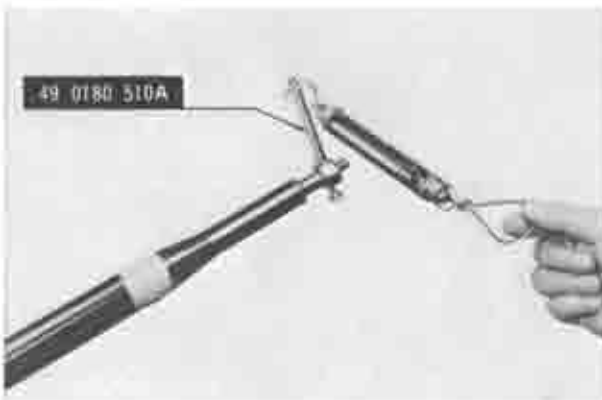

Fig. 10-13 Checking bearing preload.
**Note:** The preload before installing the sector shaft should be between 2.0 to 5.0 cm-kg (1.7 to 4.3 in-lb). If the preload is checked with a spring scale and 10 cm length of attachment (49 0180 510A), as shown in Fig. 10-13, the reading should be 0.2 ~ 0.5 kg (0.44 ~ 1.10 lb).